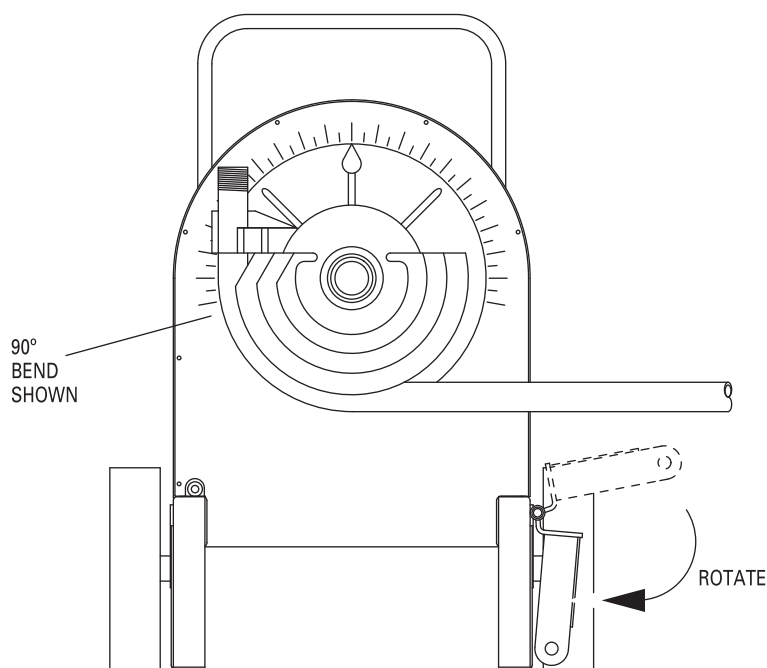

Figure 9
4. Using the remote hand unit (pendant), place the "Bend/Unload" switch in the "bend" position. Press the "Jog" button and advance the bender. Be sure to check the alignment of the bending mark as the rotating shoe locks the pipe/conduit into position. Advance the bender shoe to desired degree of bend. When the pointer on the shoe reaches the desired degree of bend, release the "Jog" button and the bender will stop. See Figure 9.
5. To release the pipe/conduit, place the "Bend/Unload" switch in the "Unload" position. Press the "Jog" button and reverse the shoe far enough to release the conduit. Then, rotate the support unit out of the way. See Figure 9. The pipe/conduit can now be removed.